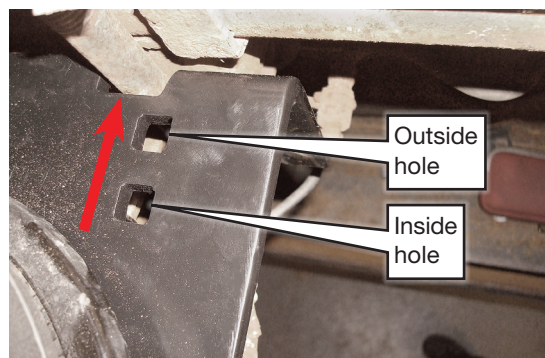
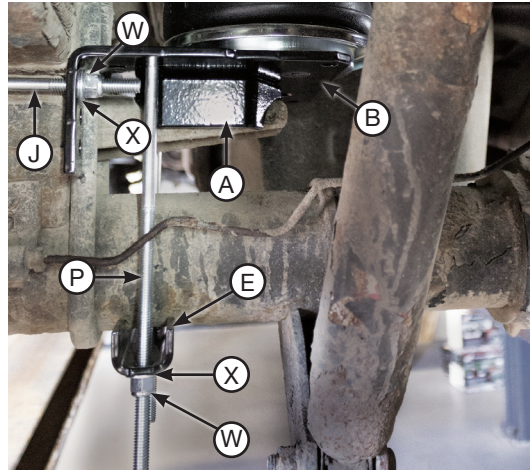

fig. 20
fig. 21
1. Determine which bolt holes to use for the 3/8"-16 x 10" carriage bolts (P) based on the type of truck (Figs. 20 & 21):
2. Push the lower bracket (B) up against the stock U-bolts so that the flanges are locked into position around the stock U-bolts (Fig. 20). It may be necessary to rotate the lower bracket cup (A) on the jounce bumper strike plate (Fig. 21).
3. Position the U-bolt (J) around the leaf spring assembly and insert into the lower bracket (B) hole closest to the leaf spring stack (Fig. 21). The lower bracket flanges must be locked on the front and rear of the stock U-bolts that hold the leaf springs to the axle.
4. Cap the U-bolts with two 3/8" flat washers (X) and two 3/8"-16 nylon lock nuts (W) and evenly tighten only enough to draw the bracket up against the stock U-bolt (Fig. 21).
5. Set the clamp bar (E) over the long carriage bolts below the axle and cap with two 3/8" flat washers (X) and two 3/8"-16 nylon lock nuts (W) (Fig. 21).